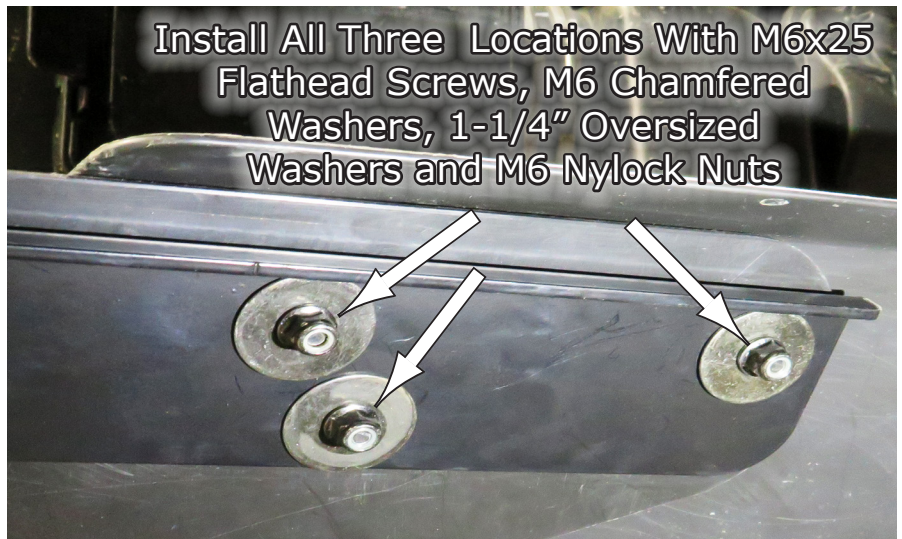

Fig.14
14. Now install the **M6x25 Flathead Screws, M6 Chamfered Washers, 1-1/4" Oversized Washers and M6 Nylock Nuts** in the two (2) holes you just drilled and the end bolt you also just removed as shown in **Fig.14**.